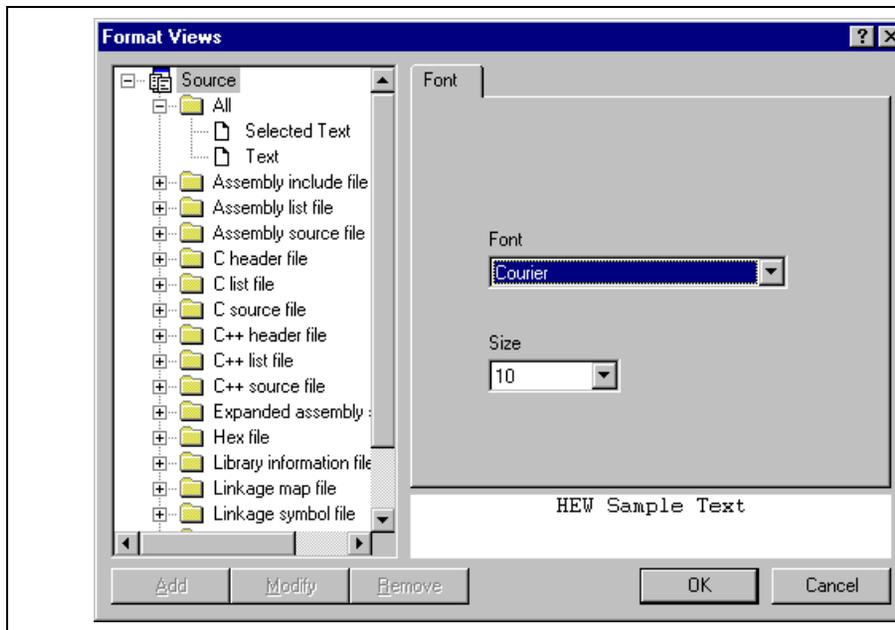

Figure 4.10: Format Views Dialog Font Tab
1. Select [**Tools->Format Views...**]. The “Format Views” dialog will be displayed. Select the Source in the * MERGEFORMAT tree (figure 4.10).